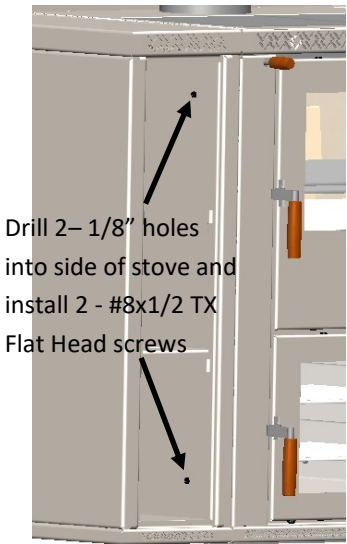

Fig. 5
- Drill 4 - 1/8" holes and install 4 screws (#8x1/2 TX Flat Head) from the inside of the cabinets. (two from each side) See Fig. 5 & 6.